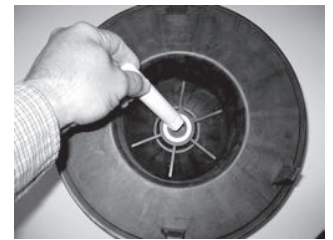

Figure 20
11. Remove the impeller shaft (item 9) from the barrier and check for signs of cracking, chipping, scoring or wear. See figure 20.